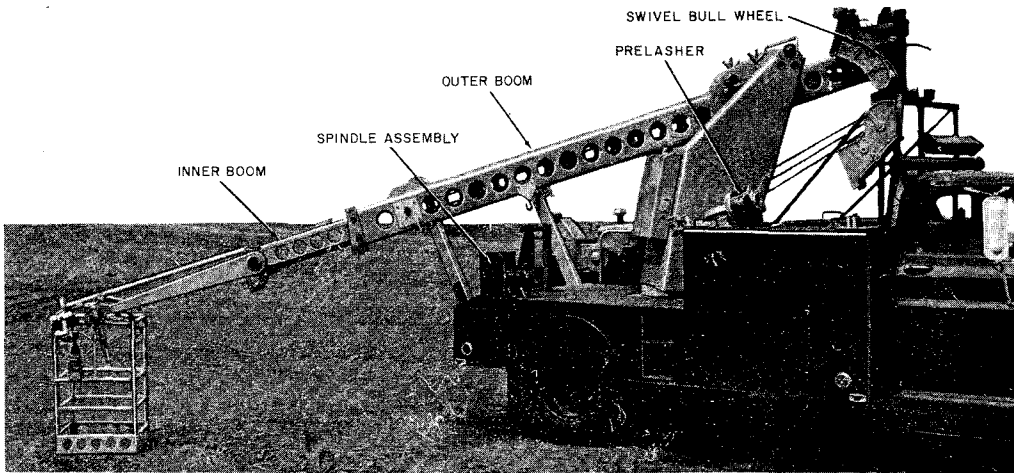

Fig. 10—Boom Lowered to Rest Platform on Ground
4.04 Unhook the platform from its travel position, and using the platform control, place the platform firmly on the ground, as shown in Fig. 10, before entering.